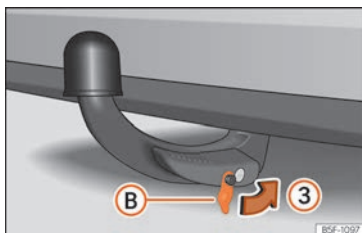

Fig. 257 Placing the cover over the lock.
- Place cover **B** in the lock in the direction of arrow **3** » **Fig. 257** » **1**.